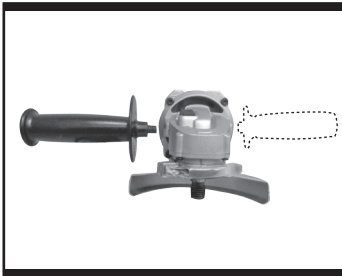

Fig. 1
1. AUXILIARY HANDLE (See Fig 1).